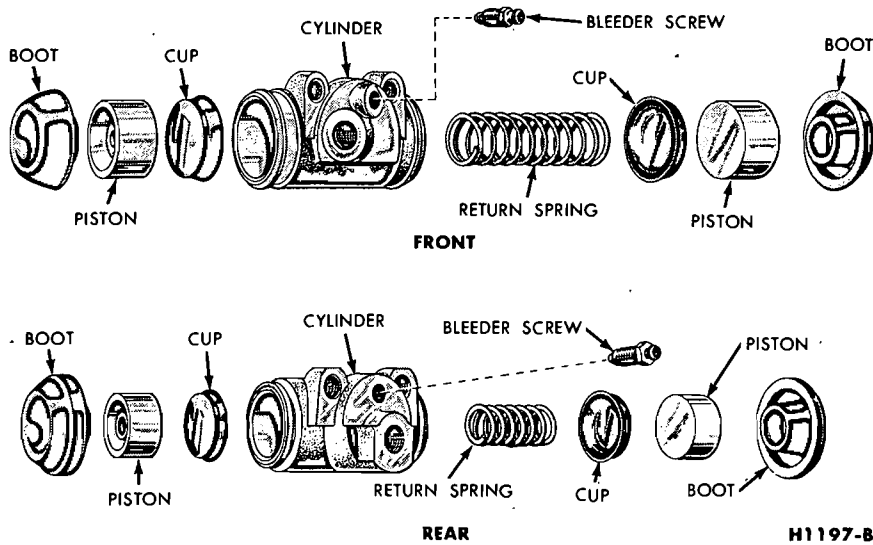

FIG. 11—Front and Rear Wheel Cylinders
1. Remove the links and the rubber boots from the ends of the brake cylinder. The 6-cylinder models are not provided with links. Remove the pistons, cups, and return spring from the cylinder bore (Fig. 11).
3. Insert the return spring, cups, and pistons into their respective positions in the cylinder bore (Fig. 11). Place a boot over each end of the cylinder.